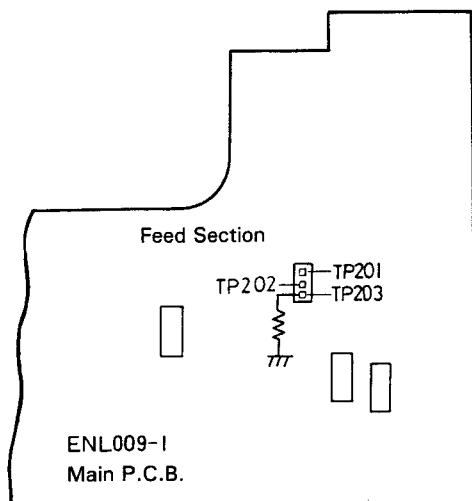

Fig. 21
1. Connect TP203 to ground via a 2.2k Ω resistor, as shown in Fig. 21.
3. Adjust screw (A) to obtain a voltage of 85^{+5}_{-10} mV between TP201 and TP202.